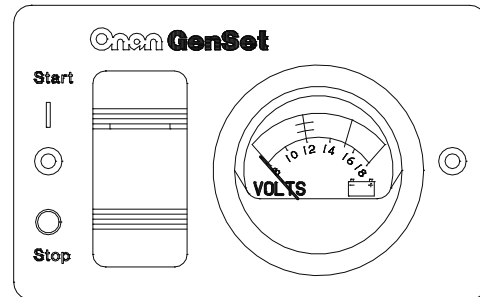

FIGURE 5-7. REMOTE SWITCH / DC VOLTMETER
- Remote switch / status lamp and DC voltmeter (Figure 5-7).